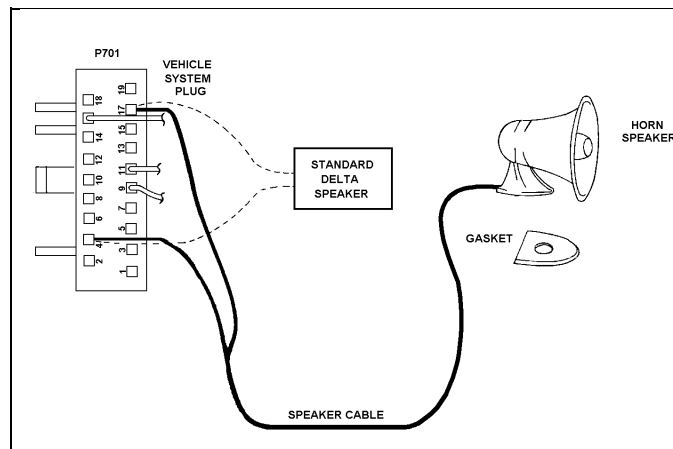

FIGURE 1 - REPLACEMENT OF STANDARD SPEAKER WITH HORN SPEAKER
1. Mount the speaker in the desired location and make the electrical connections indicated in Figure 1.